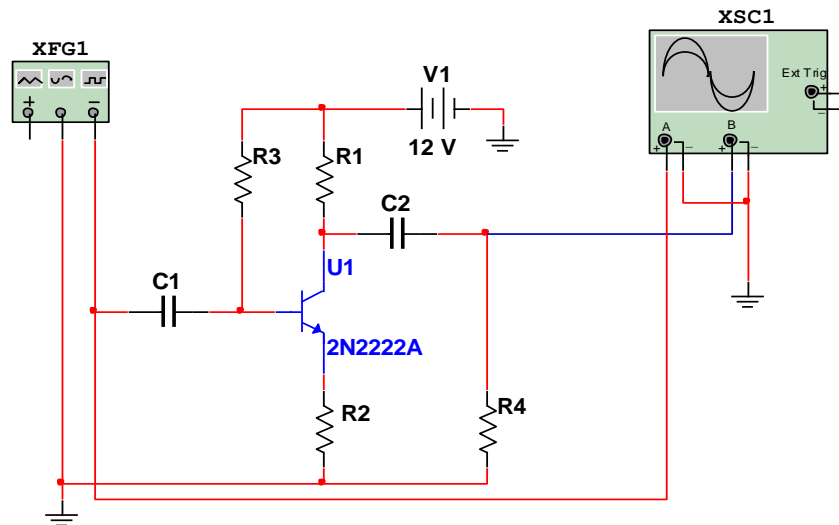

Fig. 1.10 Simulation circuit for CE configuration transistor amplifier
1.7. Create the CE configuration transistor amplifier circuit as in Fig. 1.10
Record the resistors and capacitors values on the diagram in Fig.1.10.